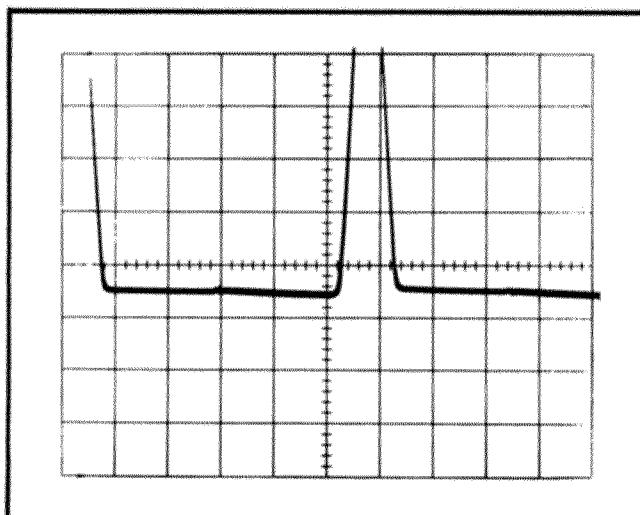

Fig. 2-5. Test oscilloscope waveforms when horizontal limit centering is properly adjusted.
g. CHECK-The base line of both displayed waveforms should be at the same DC level within 0.2 division (see Fig. 2-5).